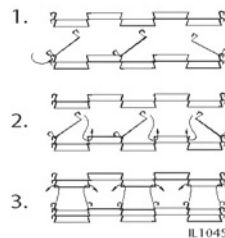

Fig 1. Master Links
3. Heavily soiled conveyor surfaces, models locate all 3 of the master links on the conveyor belt. Follow the step 1 in Fig 1, to remove all of the master links. Models have no master links, to remove, unhook each end of one link and bring the two ends together, and unthread. Once detached, re-hook into itself so not to get damaged.
9. Reinstall the previously removed master links as shown in step 2 & 3 in Fig.1. 210 models, unhook the last link of the conveyor, farthest away from you, and rethread through the other end, and reconnect back onto itself.